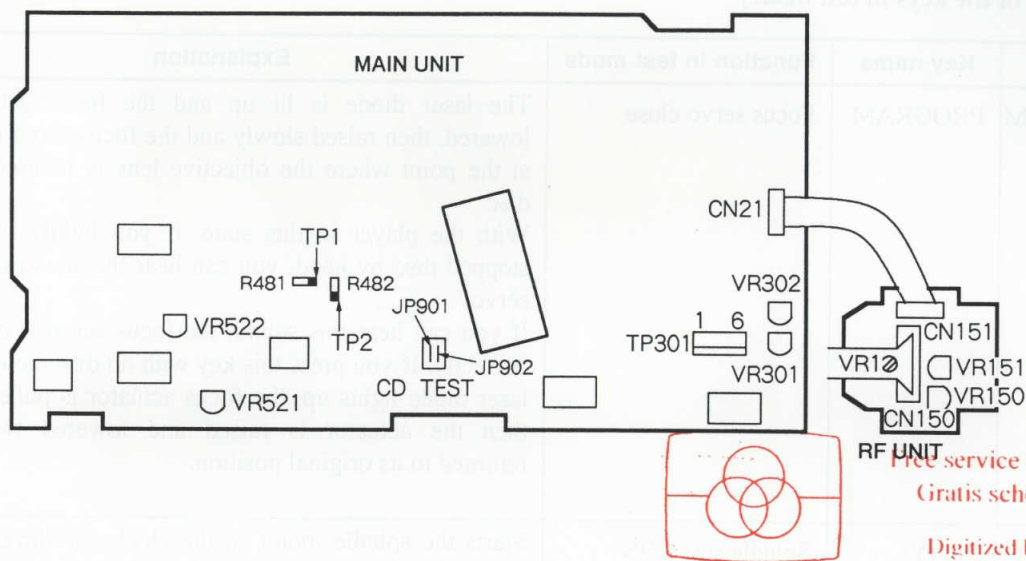

Figure 1 Adjustment Locations
2. Short the test mode jumper wires (JP901 and JP902). (See Figure 1.)